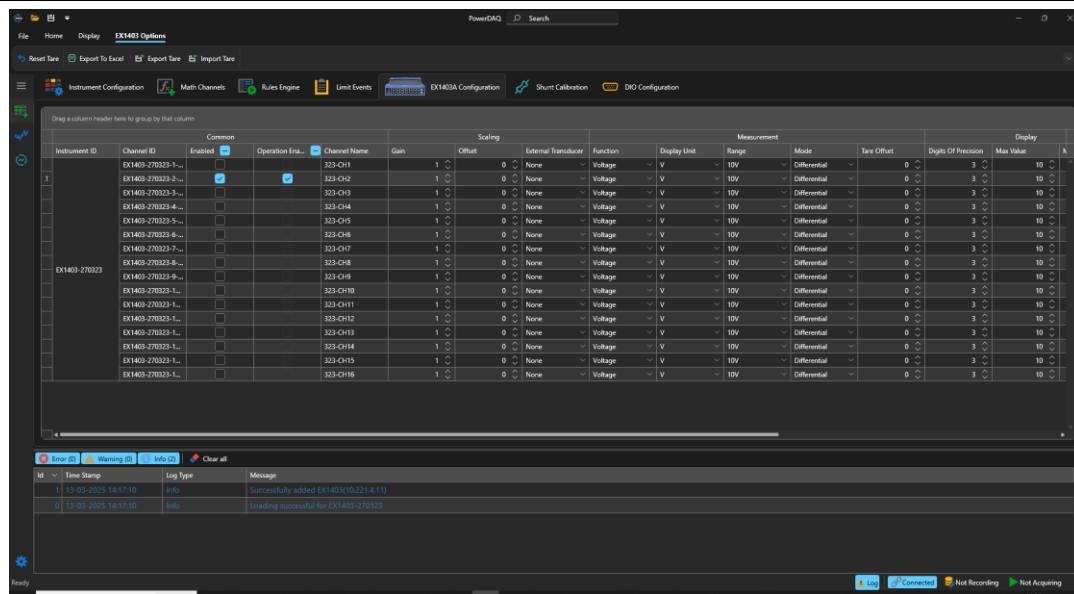

Figure 20. Channel Configuration Parameters
3. Double-click an instrument in the Instrument Configuration Summary to display the Channel Configuration Parameters. See Figure 20.